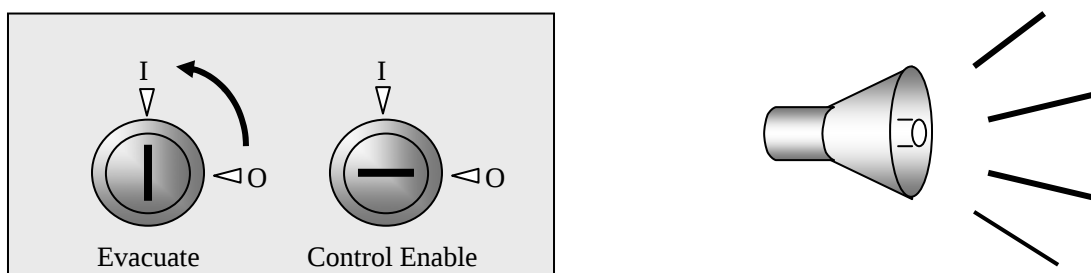

Fig.4.1.5a Start the sounders
4.1.5.1 There are two keyswitches on the panel. See Fig.4.1.5a. If you insert the key into **Evacuate** keyswitch and turn it to **I** position, the external four sounders are started.